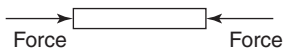

Figure 1.2
**Compression** is a force that tends to squeeze or crush a material, as shown in Figure 1.2. For example,